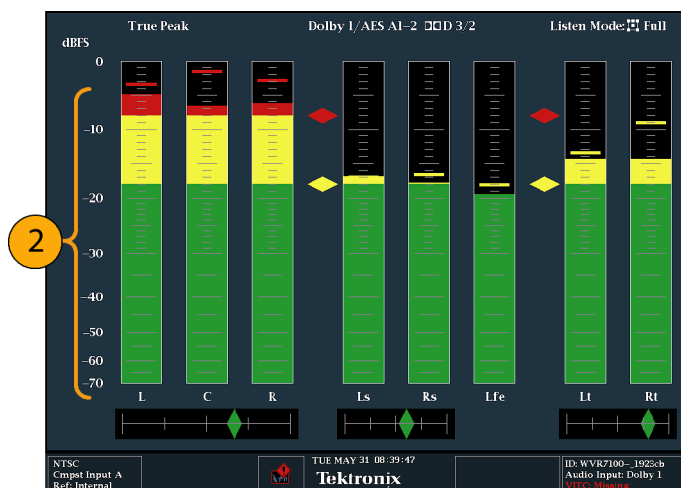

Figure 59: Audio levels
2. Check the level meter bars for current audio levels, which are displayed according to the selected meter ballistics. Each bar displays three colors. (See Figure 59.)